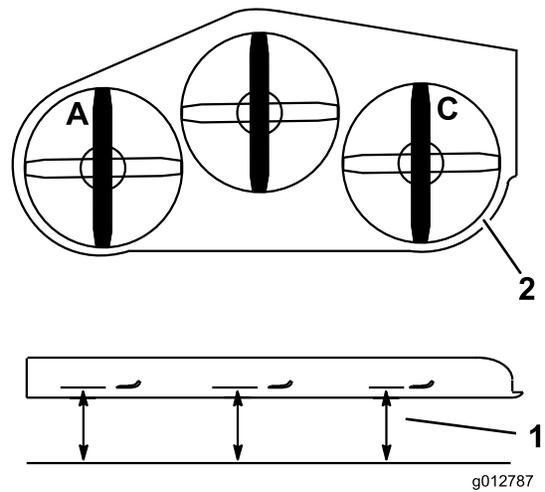

Figure 86
- Position the left blade front-to-rear (Figure 86).
- Measure the left blade at the **A** location, from a level surface to the cutting edge of the blade tip and record this measurement (Figure 86).
- Position the right blade front-to-rear (Figure 86).
- Measure the right blade at the **C** location, from a level surface to the cutting edge of the blade tip and record this measurement (Figure 86).
2. Position the left blade front-to-rear (Figure 86).
3. Measure the left blade at the **A** location, from a level surface to the cutting edge of the blade tip and record this measurement (Figure 86).
4. Position the right blade front-to-rear (Figure 86).
5. Measure the right blade at the **C** location, from a level surface to the cutting edge of the blade tip and record this measurement (Figure 86).